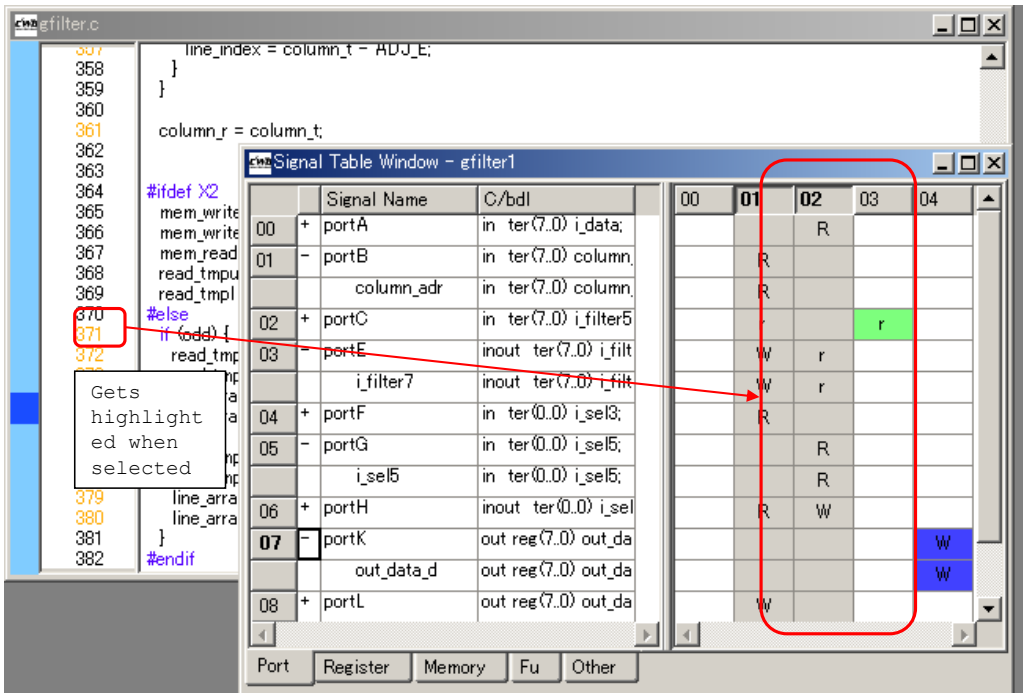

Figure 12-2 Display of linkage of BDL and signal table
Figure 12-2 shows how this functionality is used in actual. BDL source codes are opened in signal table and CWB-gui internal editor. Some of the row numbers in internal editor are displayed in colors other than black (These colors can be customized. Refer section 16.1). By clicking here, state corresponding to signal table will be highlighted.
- Cell of Signal name (Port A of Figure 12-2 etc.)
- Label of state name (01 and 02 of Figure 12-2 etc.)
- Cell of access state (R and W of Figure 12-2 etc.) (